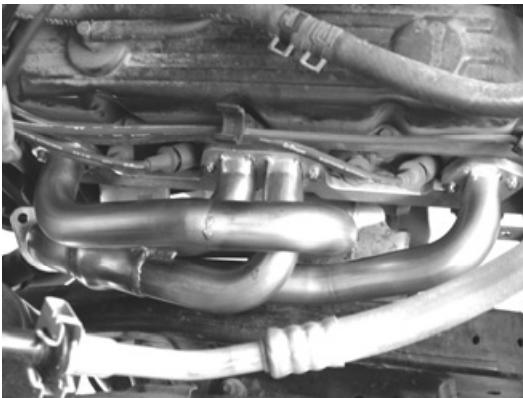

Figure 4
1. Using the gaskets and hardware supplied, place the Borla Performance Stainless Steel headers in position as shown in figure 4. Torque header bolts to 23-33 ft. lbs. DO NOT install the locks and clips at this time.